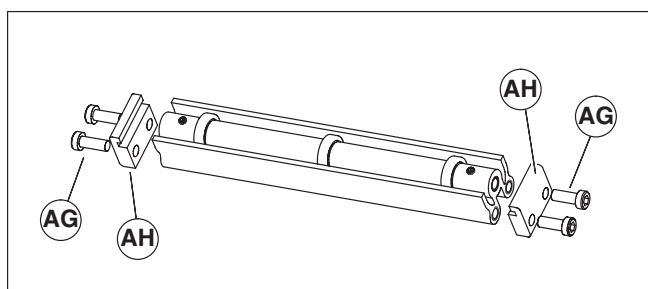

Figure 13
1. Locate return rollers. Exploded view shown in Figure 13.
2. Remove screws (Figure 13, item AG) and clips (AH) from roller assembly.